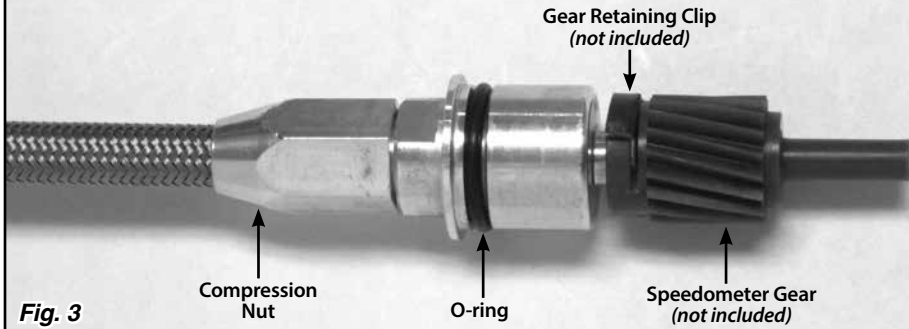

Fig. 3
Step 5: Install the provided o-ring into the groove on the trans end fitting. Install the inner wire into the cable housing with the square end towards the transmission. Install your original speedometer gear (not included) and gear retaining clip (not included) onto the trans end fitting, with the lip on the retaining clip pointing away from the transmission. **Fig. 3** Make sure the speedometer gear spins freely. Push the inner wire fully into the speedometer gear, twisting it as you go. When the inner wire is seated in the speedometer gear, the gear will turn if you twist the inner wire at the speedometer end.